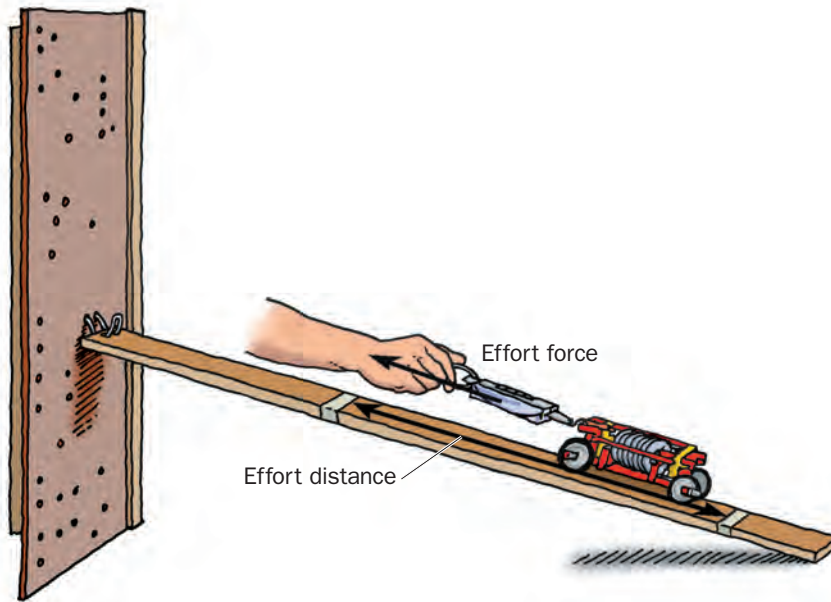

Figure 11.4 Effort force and effort distance on an inclined plane
6. Now pull the cart up the incline so that it moves a load distance of 0.10 m. Measure the distance the cart moves along the incline. This distance is the *effort distance*. The spring scale measures the *effort force* needed to pull the cart up the incline. Figure 11.4 shows effort force and effort distance on an inclined plane. Record the effort force and effort distance for this angle of the incline.